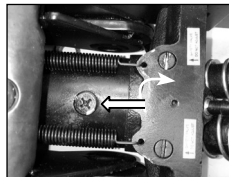

fig 10.
3. Remove fluid filler plug [fig.10]. Hydraulic fluid level should be visible at the oil filler hole approx 12 mm below fluid filler, top as required (refer to the "Maintenance and Storage" pg 7).
Remove air vent valve (fig 10). Hydraulic fluid level should be visible at the air vent valve hole approx 12mm below air vent valve hole, do not overfill. If low, add fluid as needed then close air vent valve.